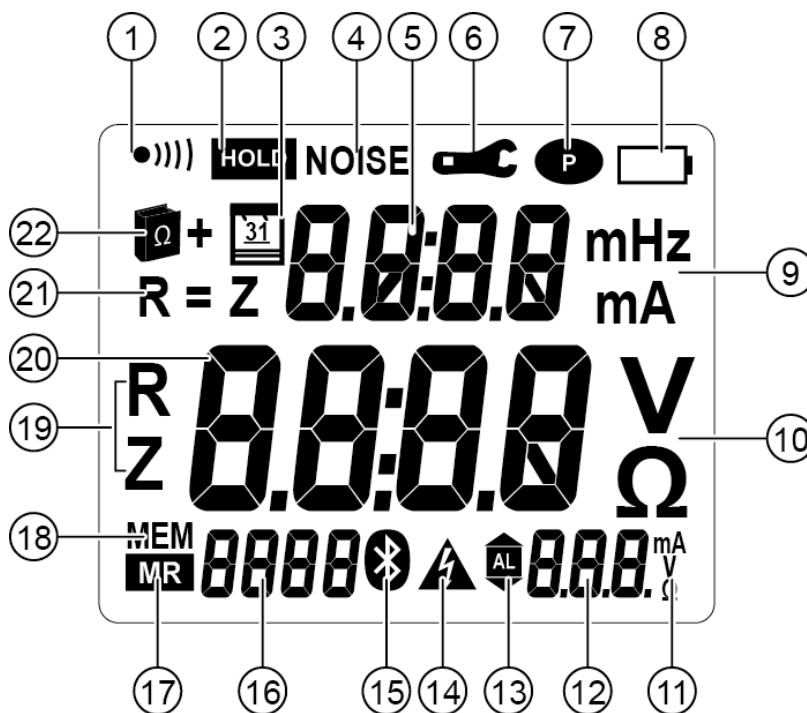

Fig. 6
The audible signal can be activated or deactivated in *SET-UP* (see chapter 8, menu 2). The  icon (*Fig. 6*, item 1) behaves as follows: